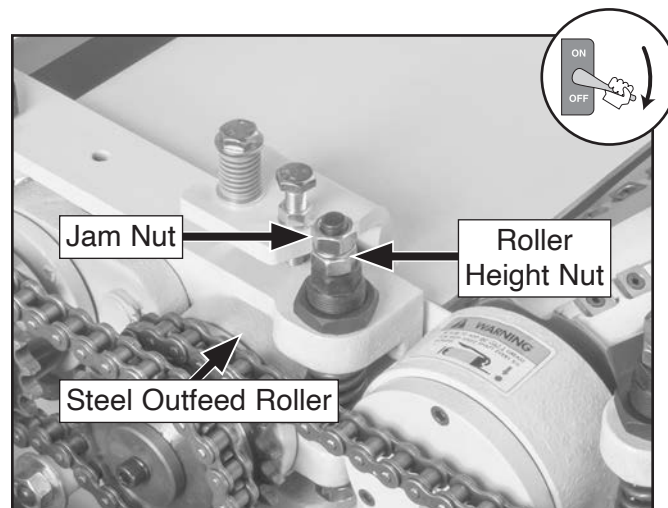

Figure 103. Location of steel outfeed roller adjustment components.
3. On left side of machine, loosen jam nut, then tighten or loosen roller height nut (see **Figure 103**) on adjustment stud to adjust steel outfeed roller height so Rotacator/dial indicator reads 0.40mm.